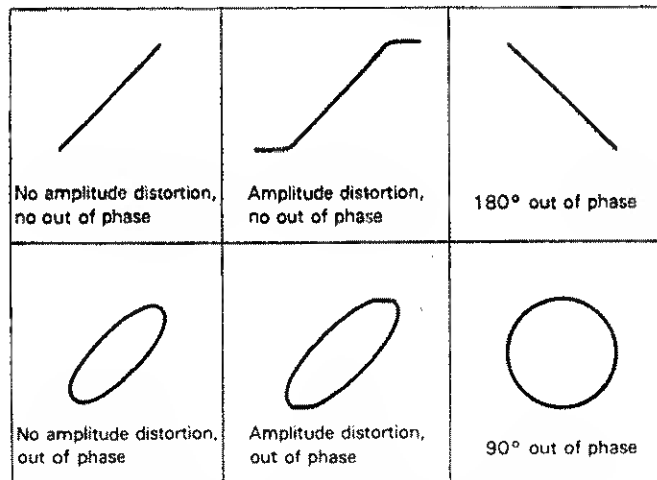

Fig. 19. Typical X-Y Phase Measurement Displays.
Phase Measurements (refer to Fig. 19.)
5. If necessary, repeat step 3, readjusting the channel 1 and 2 gain controls for a suitable viewing size. Some typical results are shown in Fig. 19.